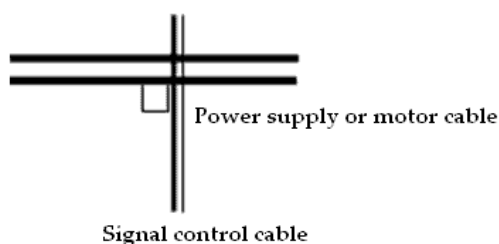

Fig. 2-12 Wiring requirement of system
- (1) The cable connected inverter and motor (cables from U, V, W points) should not parallel with power supply cable (R, S, T or L, N terminal input wire). The distance should be more than 30cm.
- (2) Inverter's output cables from U, V, W terminals is recommend to put in metal tube or slot.
- (3) Control signal cables should be shield and the shield layer should be connected with inverter's PE terminal, then ground the point near the inverter.
- (4) The grounding cable of inverter's PE terminal should be connected to ground directly. It can't connect to other devices' grounding cables.
- (5) Don't put the signal cables in parallel with the power cables (R, S, T or L, N with U, V, W) or bundle these cables together, at least 20~60 cm distance should be kept (related with power current), If the signal cables and power cables needed to be intersected, they should be vertical to each other, as shown in Fig2-12.